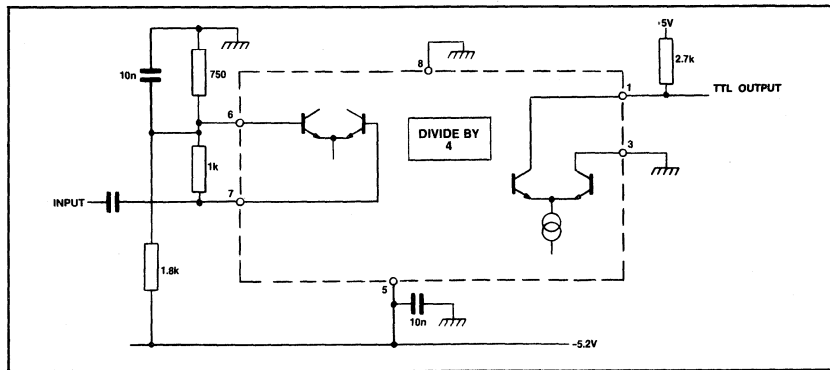

Fig.6 Typical application showing interfacing
1. The signal source can be capacitively coupled to the clock input if input bias is provided (See Fig.6) but is normally directly coupled with ECL II levels. The inputs can be operated either singly or with double complementary input drive.
2. The outputs are in the form of complementary free collectors with 1.6mA available from them over full military temperature range (A grade). The outputs can be interfaced to ECL or Schottky TTL as shown in Figs. 6 and 7. Interfacing to TTL at frequencies above 20MHz requires low capacitance interconnections and the use of Schottky TTL.